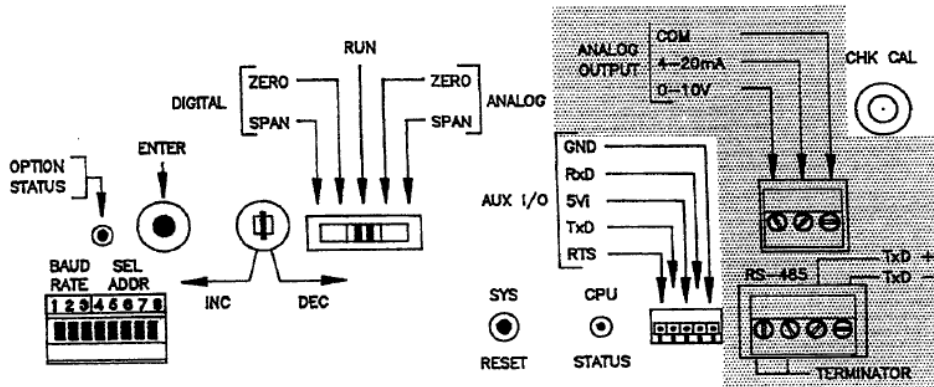

Figure 2-4. Ac Power Connections and Fuse
2.3.4 Mains (AC) Power (Figure 2-4).
can be switch selected to operate at 115 or 220 VAC (see SW1, Figure 2-4). Before connecting power to the unit, verify that the proper power selection has been made. The two position terminal block is equipped with a clear plastic cover to prevent operator injury. Cable can be either solid or stranded 12 or 14 gage with a ground conductor.
All units are shipped from the factory configured for 115 VAC operation. To change the voltage selection to 230 VAC, change SW1 (see Figure 2-4) to the 230V setting. The unit will operate within specification at 50 or 60 Hz.